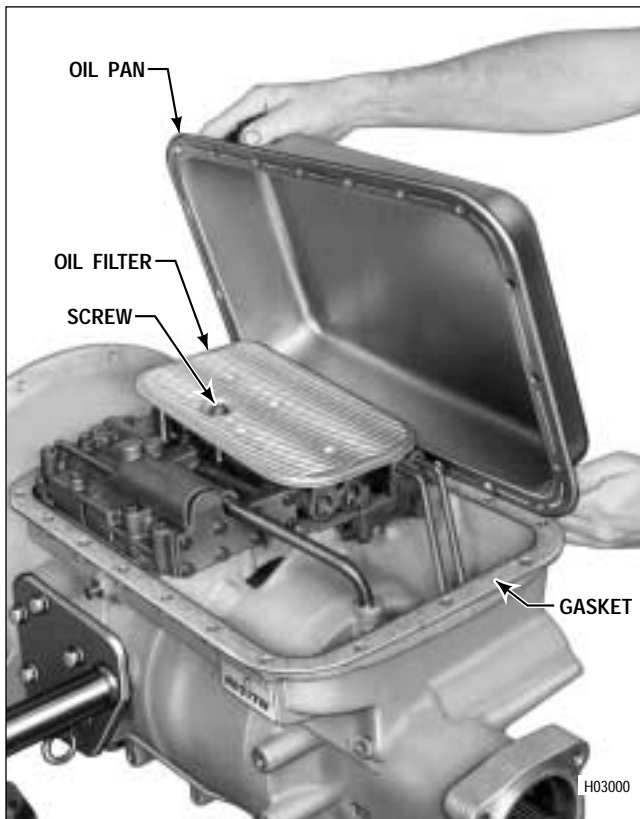

Figure 7-35. Installing Transmission Oil Pan (Shallow Pan Models)
(1) Position the pan gasket on the transmission housing, aligning its bolt holes with those in the housing (Figure 7-35).